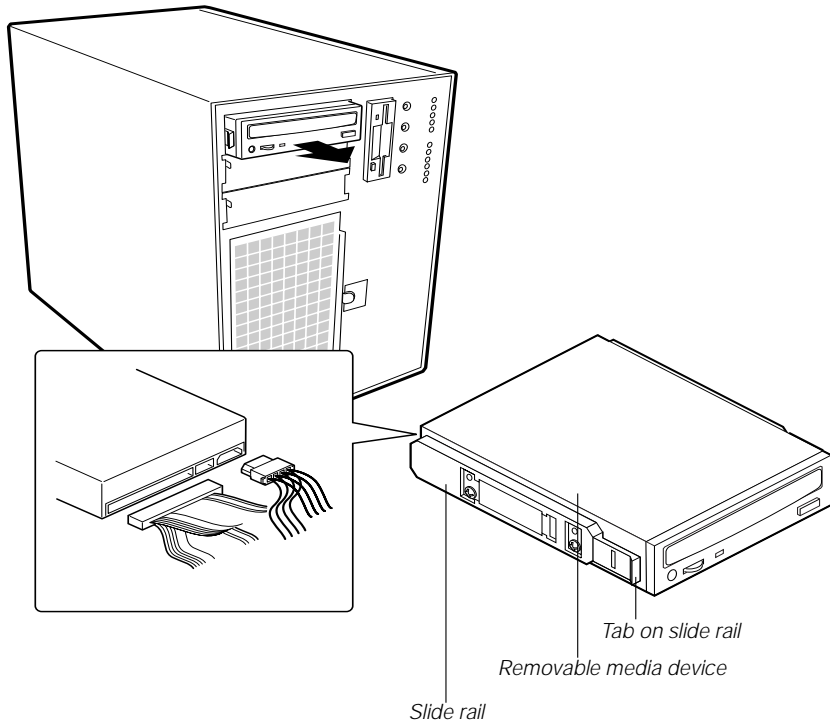

Figure 18: Removing a Removable Media Device
- The drive has two protruding plastic, snap-in rails attached. Squeeze the rail tabs toward each other as you carefully slide the drive forward out of the bay, and place it on an antistatic surface (Figure 18).